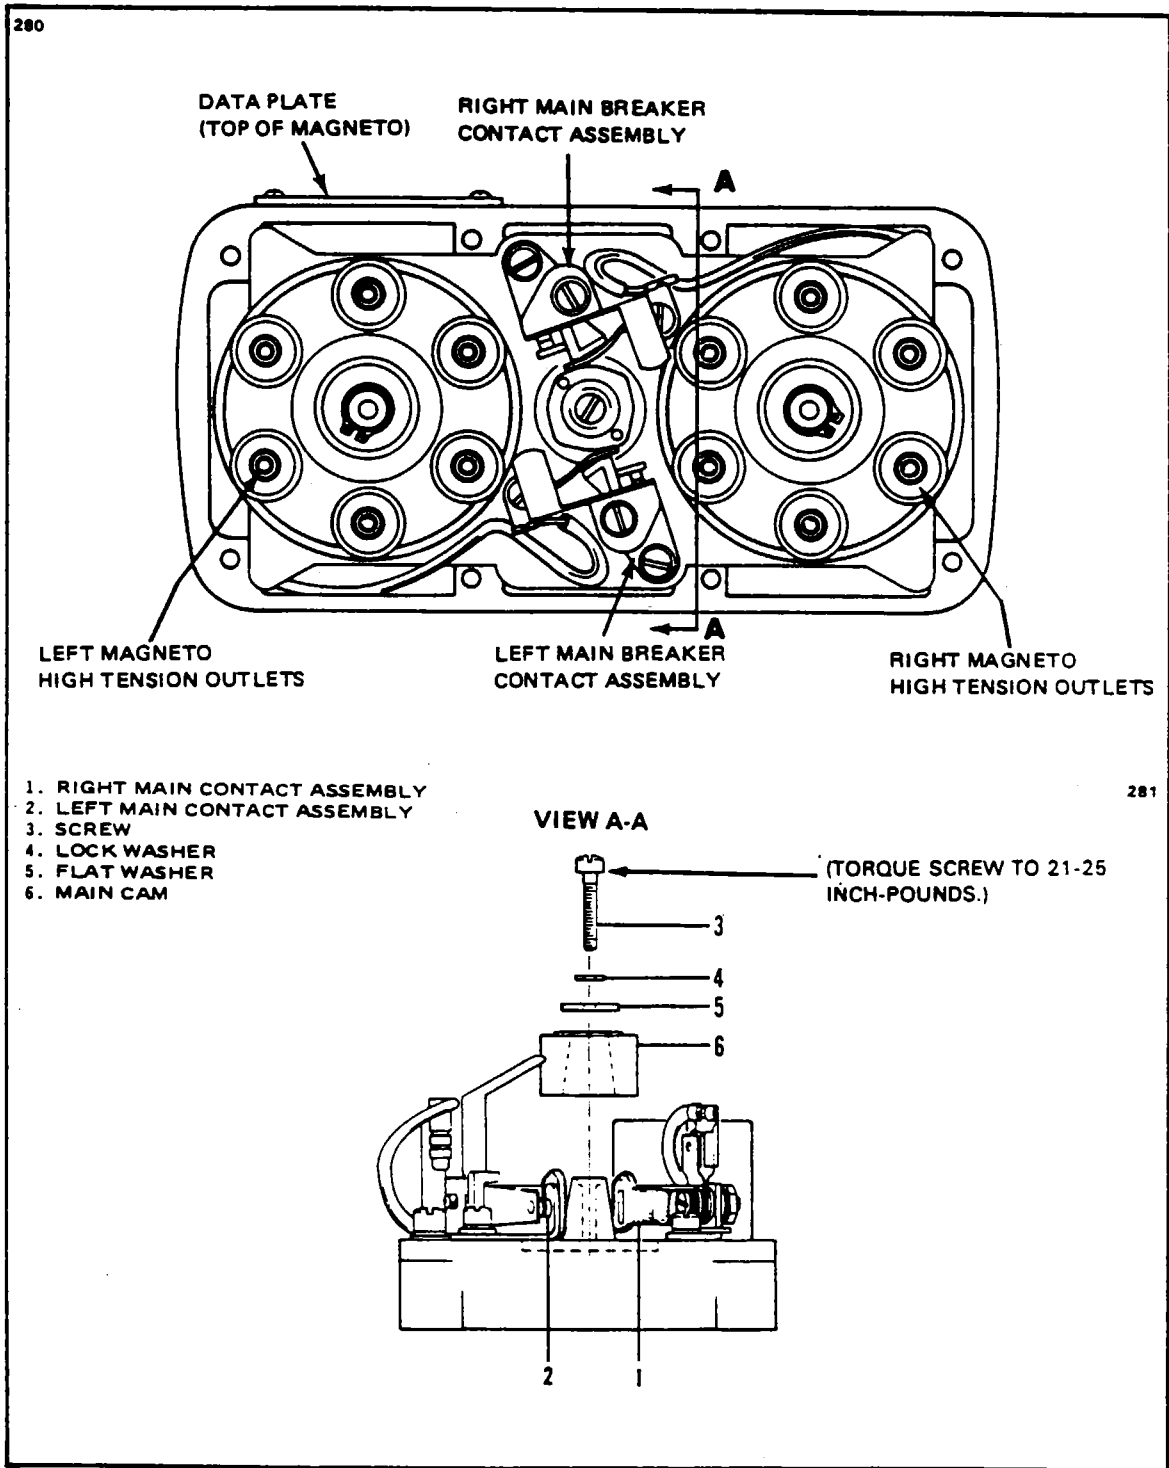

Figure 8-16. Cam End View of Magneto
m. If breaker timing is not correct, loosen cam securing screw (refer to Figure 8-16) and unseat main breaker cam from taper. Using 11-3031 Retaining Ring Pliers inserted in holes in cam, rotate main breaker cam in direction of rotation until left main breaker points just open and press cam onto taper. Install and torque cam retaining screw from 21 to 25 inch pounds.